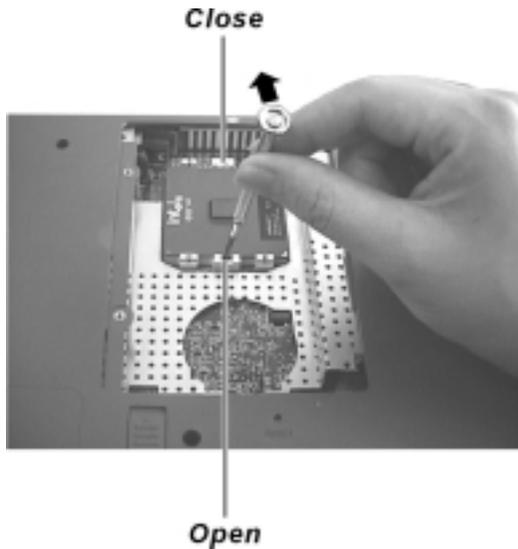

Figure 5-4
4. Insert a minus screwdriver 101 (JIS standard) into the “OPEN” hole of the socket, and push the screwdriver toward the CPU to free the CPU. Now you can take out the CPU from the socket. (figure 5-4)